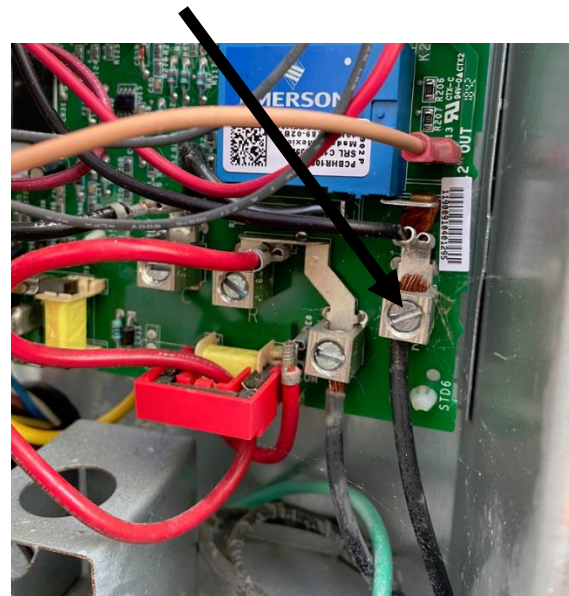

Figure 3
Step 5: Connect the black EasyStart wire under the screw pointed to by the yellow arrow in figure 3.